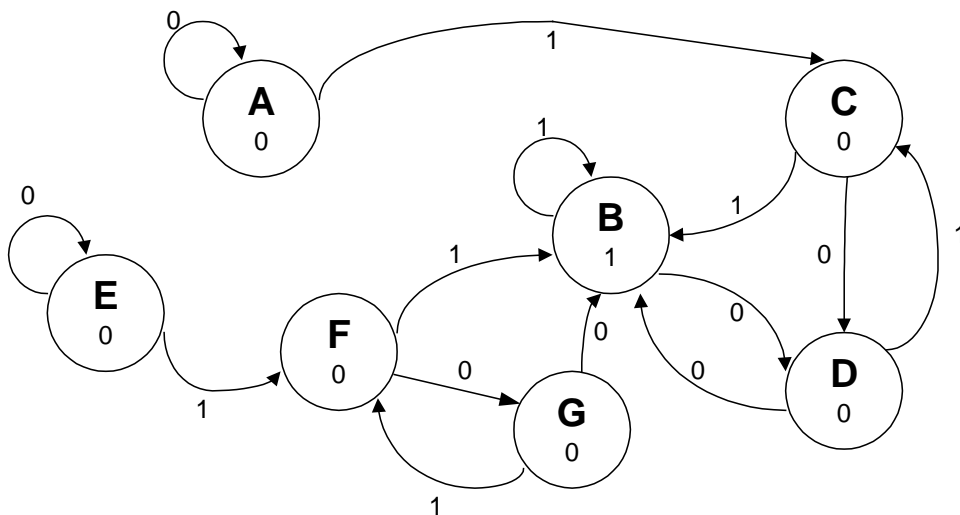

Figure 2
2. *Figure 2* shows the state transition diagram of a Moore Finite State Machine (FSM) with one input X and one output Z .